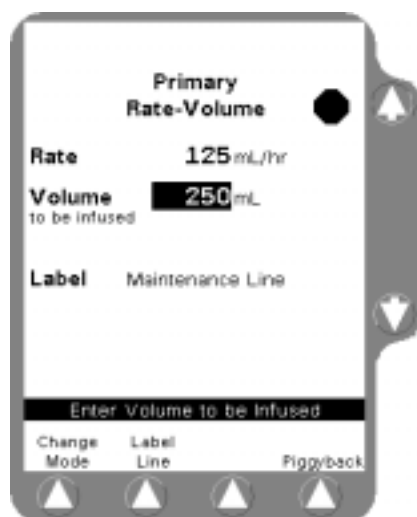
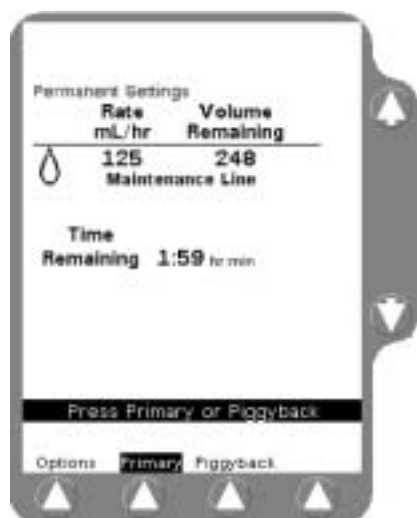

Figure 5-1 Programming Screen
Figure 5-2 Main Display
This configurable feature allows you to display informational labels on the Programming screen (Figure 5-1) and Main Display screen (Figure 5-2), and an eight-character abbreviation of the label on the Pump Module display.
3. Highlight the label you want to select using the $\uparrow\downarrow$ keys, then press the **Select** soft key. When the **Select** soft key is pressed, the Programming screen is displayed, showing the label you selected (Figure 5-1).